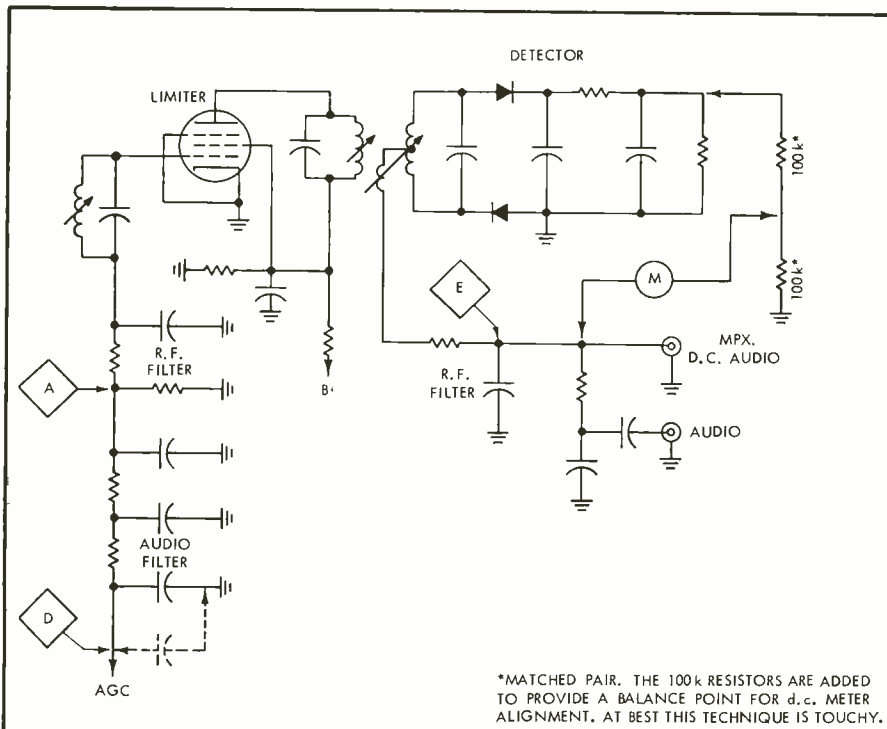
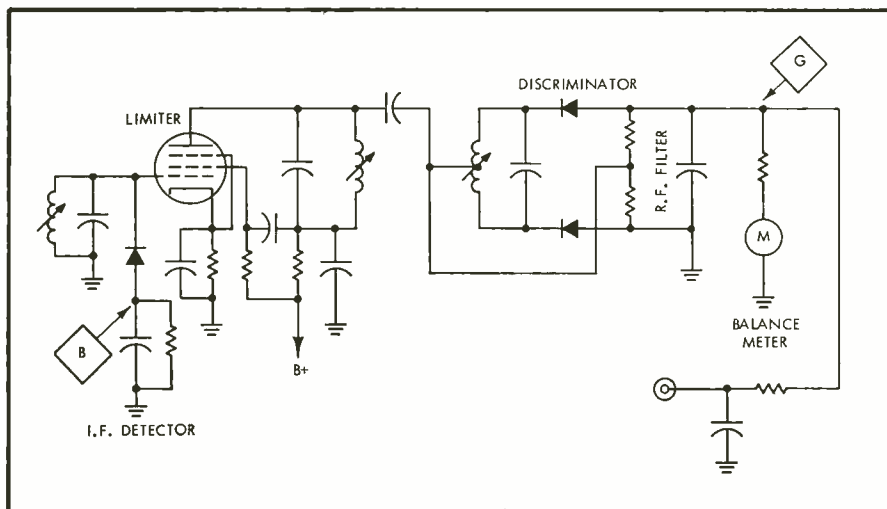
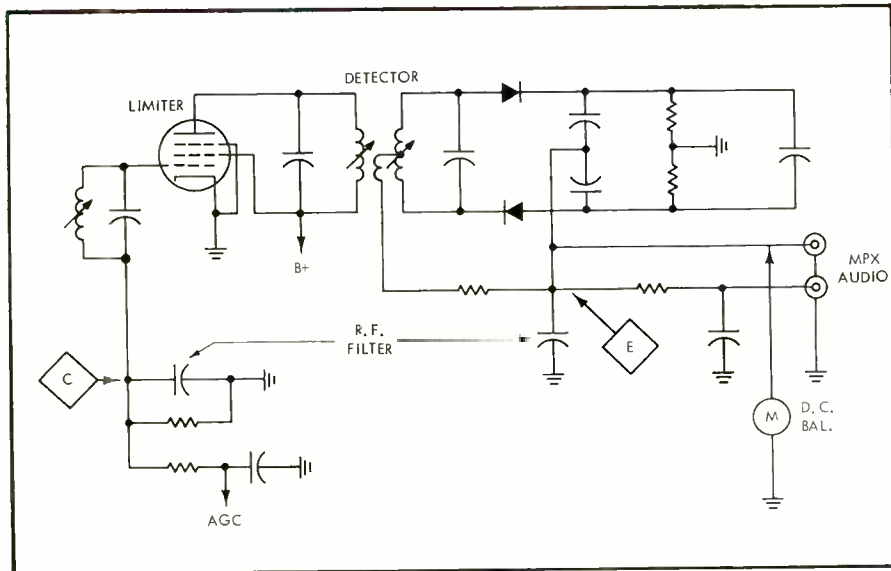

Fig. 4. Typical limiter-detector schematic showing filters of agc buss and audio, r.f., d.c., and a.c. detector outputs of a ratio detector circuit.
Fig. 5. Typical limiter-discriminator with an i.f. detector. At balance the meter will read zero volts.
Fig. 6. Typical limiter-detector with individual bias in all i.f.'s. Agc goes to front end.
If there is an age buss in the tuner, connect the probe to the r.f.-filtered section, point A in *Fig. 4*, not the audio-filtered section. In most cases, a 1:1 probe has proved satisfactory. If the tuner has an i.f. diode detector (AM) built in, this test point may be used instead (see *Fig. 5*, point B). However, do not attempt to use your own detector probe, as experience has shown that some tuners resent even this minor intrusion. There are also a number of tuners on the market that have individual grid-biasing networks instead of an age buss. Connect the 10:1 probe to the point marked C in *Fig. 6*. Using a 1:1 probe will almost invariably load the circuit, reshaping the curve, and perhaps causing oscillation.
If blanking has been used up to now, turn it off! Due to a change of gain of the i.f.'s while the FM generator frequency is within the passband of the receiver, a slope will result which can be mistaken for improper i.f. response. A frequency sweep in the opposite direction will show a similar slope in the opposite direction of a properly aligned i.f. strip. (See Fig. 7.) If the tuner in question has age, this sloping effect can be reduced by connecting a large capacitor from the audio filtered portion of the age buss to ground. A capacitor value of 20  $\mu$ f or larger, rated at 10 volts or higher, will do the job. This is point D on Fig. 4.
If the tuner doesn't have a center-of-channel meter, a d.c. VTVM can be used with detectors of the type shown in Fig. 5 or 6, but not with the type shown in Fig. 4, unless the VTVM is powered through an isolation transformer. Connect the meter to the r.f.-filtered d.c., audio output of the detector, point E in Figs. 4 and 6, or point G in Fig. 5; and the other end to the balance point of the diode output. In Fig. 5 and 6, it is ground. In Fig. 4, it is the junction of the two 100-k resistors. The FM generator is not changed. However, you may want to widen the sweep so as to see the detector curve better. The top and bottom of the detector transformer are first adjusted for maximum amplitude on the 'scope, then the top (secondary) is adjusted for zero voltage on the meter (balance) while the bottom (primary) is adjusted for the straightest possible line (linearity). (See Fig. 10.) In some cases, the frequency upswing will bow one way while the downswing will bow the other way. All you can do is adjust for maximum symmetry, making the bows balance around the desired imagi-